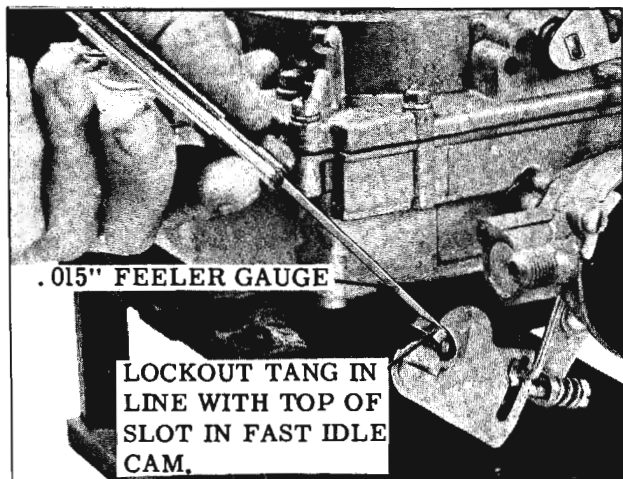

Fig. 9-26 Secondary Throttle Lock-Out Adjustment
1. Measure the clearance between the lock-out tang and the top edge of the slot in the fast idle cam. The clearance should be  $.015'' \pm .005''$ . (Fig. 9-26)